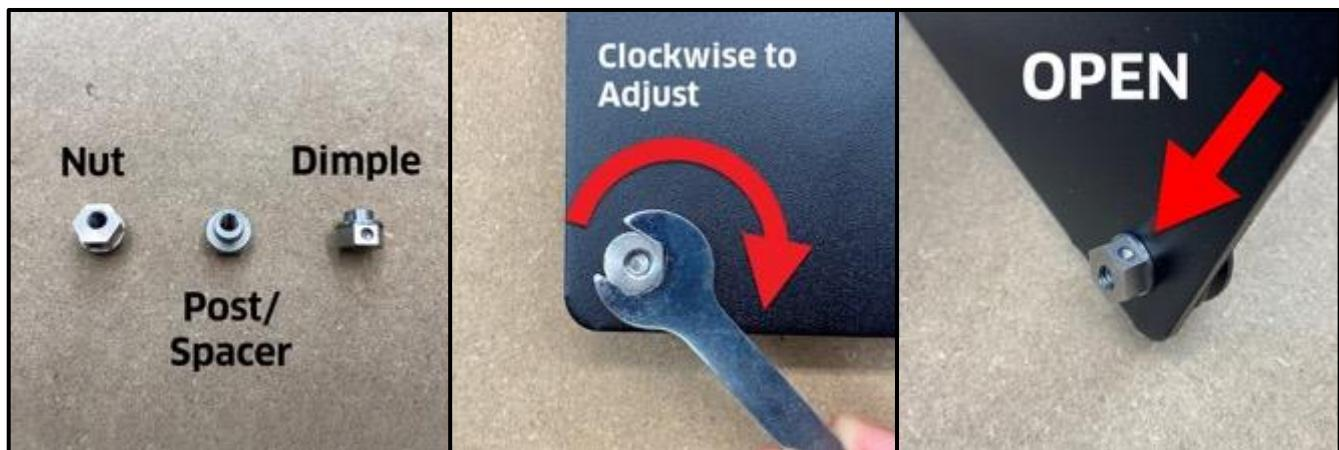

Figure 3-4
The dimple on the side of the nut is a reference point to the widest distance to the offset threads. When the dimple is facing up, the lower V-wheel is at its farthest distance from the fixed upper V-wheel; the V-wheel is **OPEN**. When the dimple is down, the V-wheel is at its closest distance to the fixed upper V-wheel and the V-wheel is **CLOSED**. See *Figures 3-4* and *3-5*.
2. Use the 10mm wrench to turn each HD eccentric nut **CLOCKWISE** until the dimple is facing up. Refer back to *Figure 3-4* if needed.